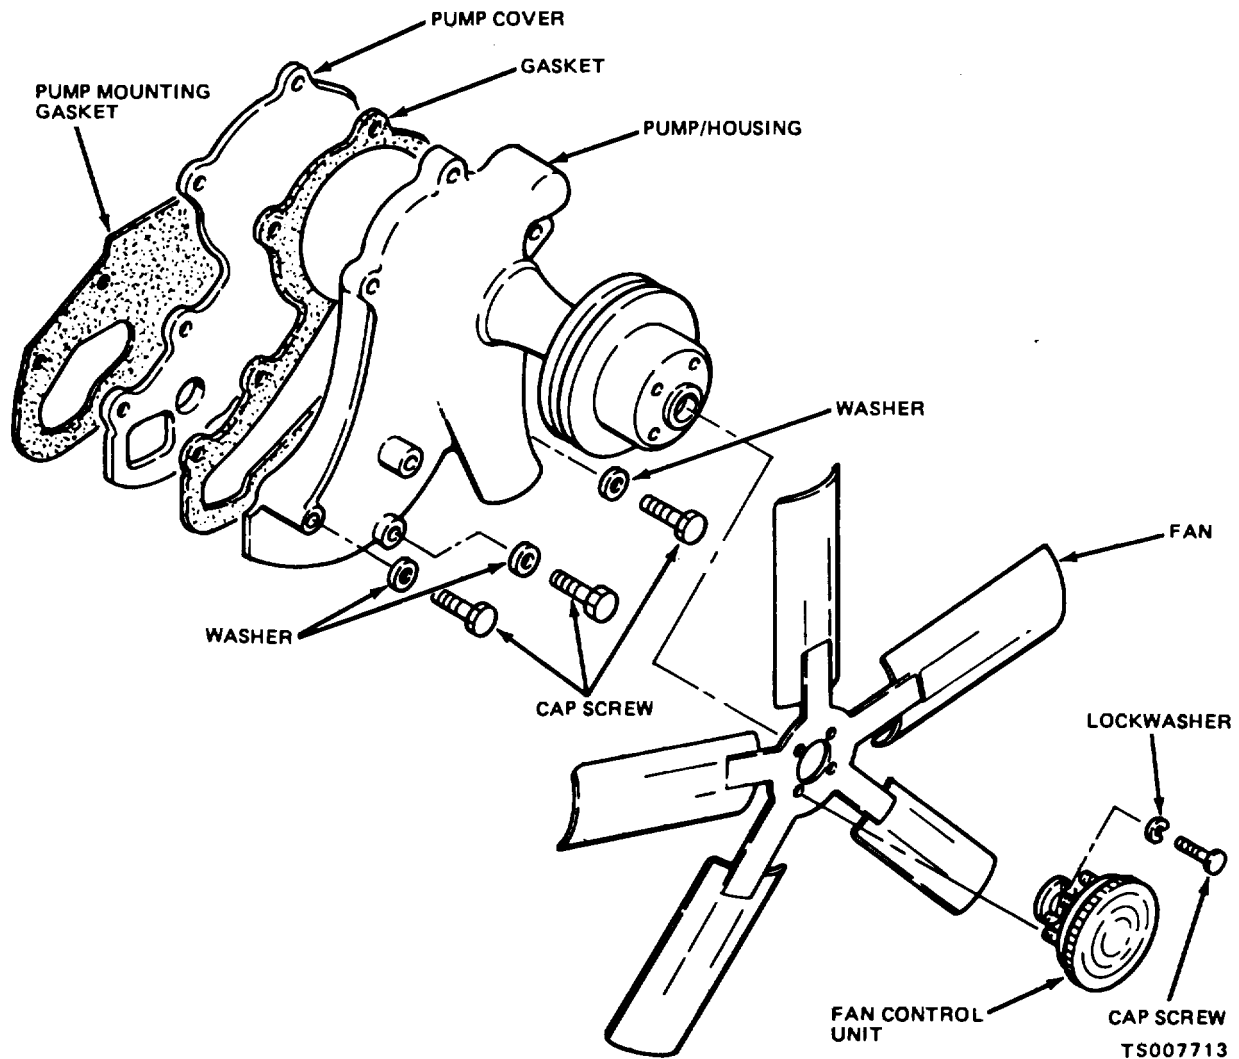

Figure 4-40. Water Pump and Fan Blade, Removal and Installation
- (1) Remove the fan and alternator belts (para 4-55).
- (2) Remove the fan blade and water pump as shown in figure 4-40.
(1) Reassemble and install the water pump and fan blade as shown in figure 4-40. Use a new gasket at installation. Torque cap screws to 25 to 30 foot-pounds torque.
(2) Install and adjust the fan and generator drive belts (para 4-55).